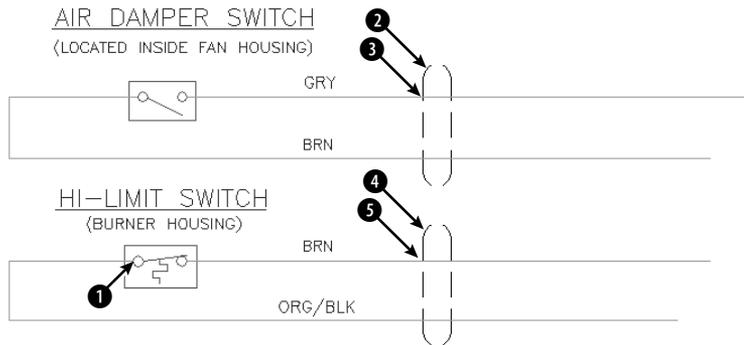

Figure 18-11: The electrical schematic has several symbols that would be useful as blocks.
PRotate]: Pick 5 in Figure 18-11.
2. Save the file as `ab18-04.dwg` in your AutoCAD Bible folder. This is a portion of an electrical schematic, as shown in Figure 18-11. OSNAP should be on. Set running object snaps for endpoint, midpoint, quadrant, and intersection.
3. Choose Make Block from the Draw toolbar. In the Name text box of the Block Definition dialog box, type **hl switch**. Choose Select Objects. Use a selection window to select the entire hi-limit switch box (not including the text labels). Right-click to end selection. Choose Pick Point in the Base Point section of the dialog box. Use the Quadrant object snap to pick the left quadrant of the left circle in the switch, at ❶ in Figure 18-11. Choose Retain in the Objects section. Click OK. The objects in this block were created on the Object layer, which is red with a continuous linetype. The color, linetype, and lineweight are set to ByLayer.
6. Use a selection window to select the top conduit symbol at 2 in Figure 18-11 (it is four objects). (It is currently on the Conduit layer, which is black and has a linetype of Hidden2.) Use the Color Control drop-down list to set the color to green. Use the Linetype Control drop-down list to set the linetype to Hidden2. Choose Make Block from the Draw toolbar. In the Name text box, type **top conduit**. The dialog box tells you that four objects are selected. Choose Pick Point. Use the Intersection object snap to pick 3. Click OK. The conduit appears green with the Hidden2 linetype.